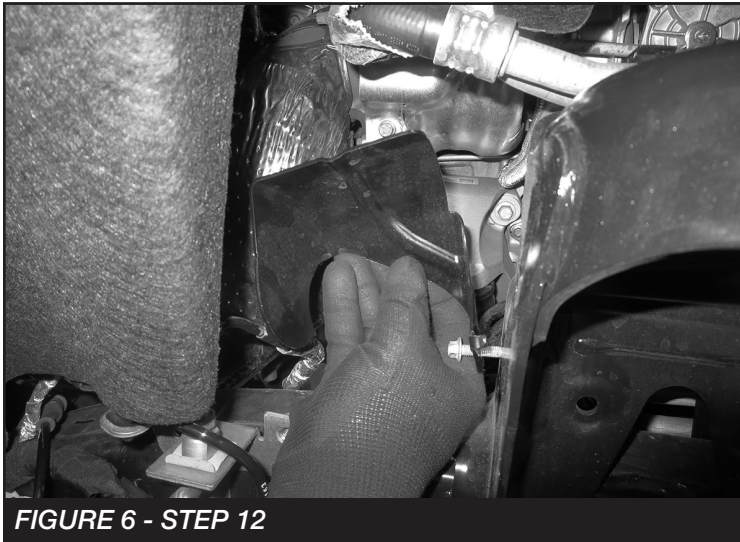

FIGURE 6 - STEP 12
12. Repeat steps on the passenger side. **NOTE: The bracket on the passenger side upper strut mount will need to be removed to get the upper control arm bolt out. SEE FIGURE 6**